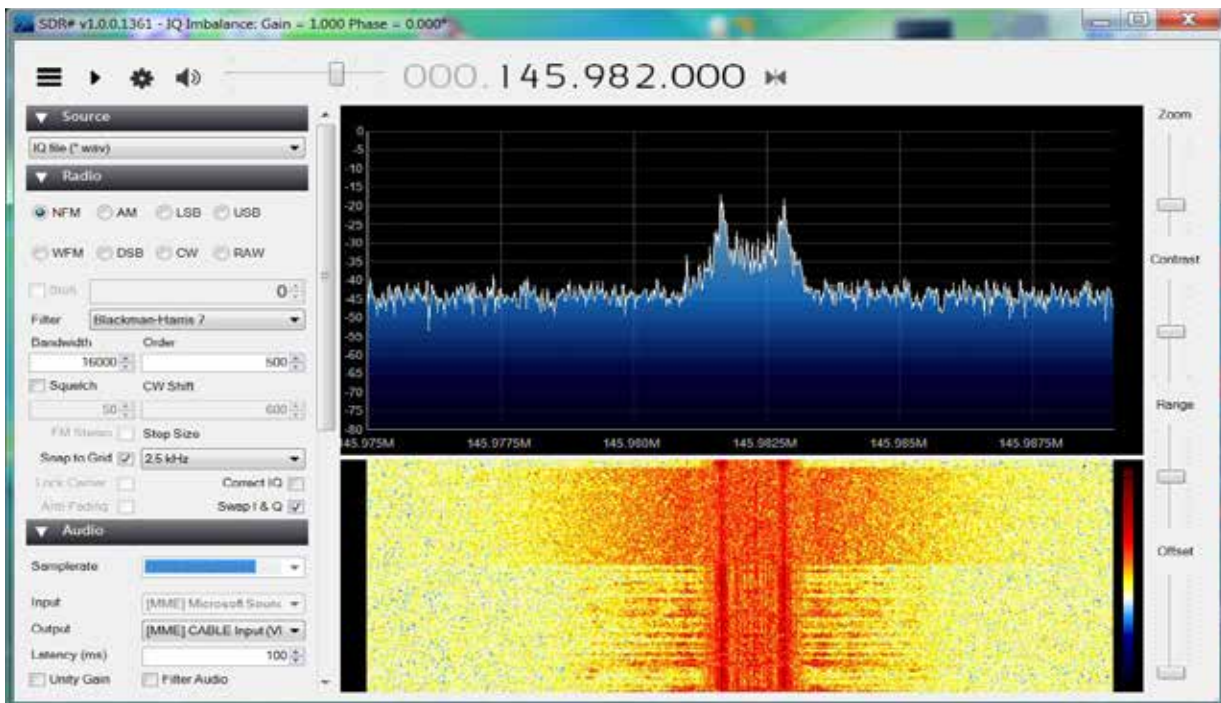

Figure 9.
- From Foxtel, select “Start” and the data should appear on the two bottom windows (Figure 9).
Figure 9 — Using GNU Radio flow graphs from Daniel EstÈvez (EA4GPZ), LilacSat-1 transmits a live picture from space on 70cm in response to a packet command transmitted on 2m FM.
the foundation provided by the LilacSat Project Team at the Harbin Institute of Technology in China to allow us to decode spacecraft telemetry, GPS location data, JPG pictures taken in space, PLUS the digital voice downlink from LilacSat-1's onboard FM repeater! His work is both incredible and all freely available. Many other satellite decoders and utilities are available from Daniel at github.com/daniestevez/gr-satellites (Figure 9).